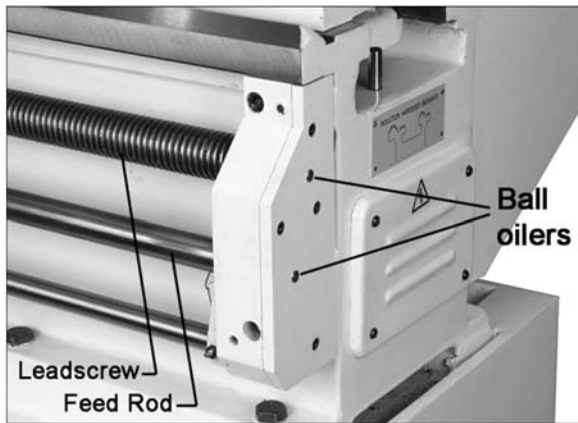

Figure 15 – Lubrication points
12. **Leadscrew and Feed Rod** – Lubricate two ball oilers (Figure 15) once or twice per shift.